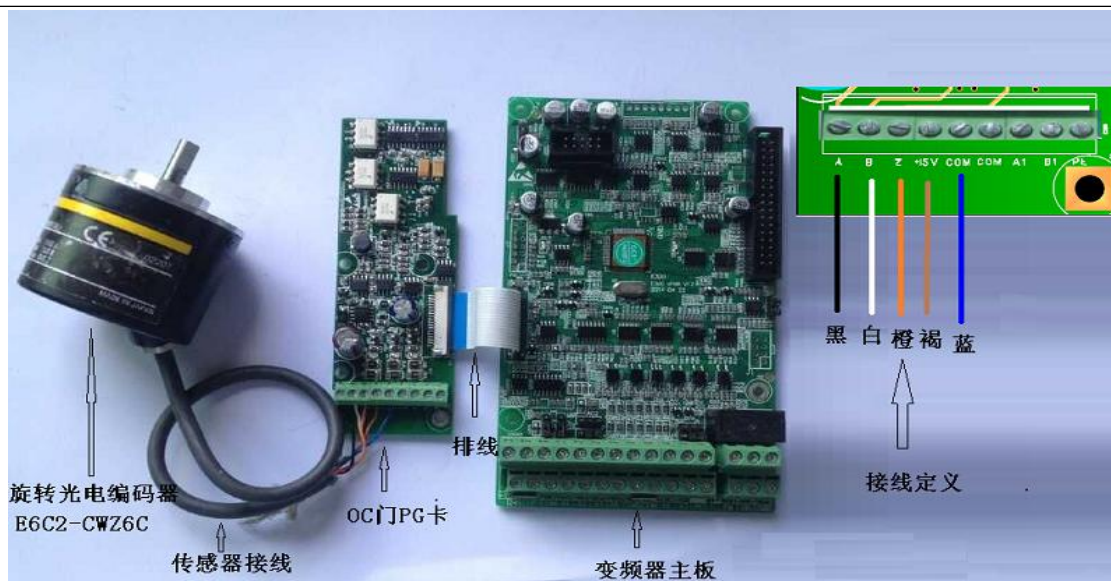

Figure 3: HV610-PG-OC test
- 2) Connect the HV610-PG-OC card to the encoder. As shown in Figure 3 below: